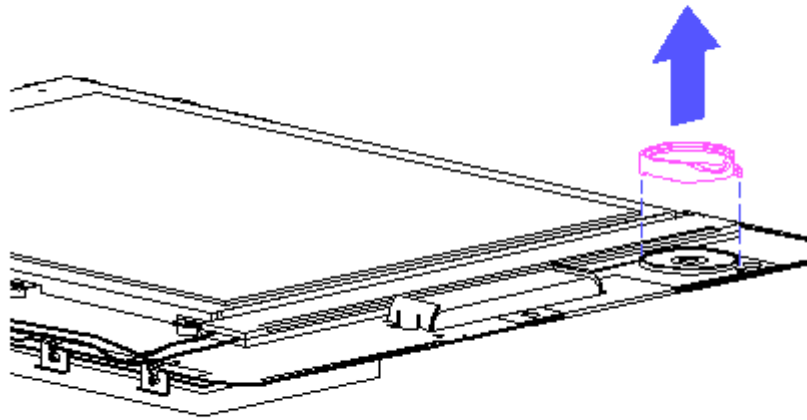

Figure 3-44. Removing the Speaker Gasket
5. If the speaker gasket is damaged, remove it (Figure 3-44).